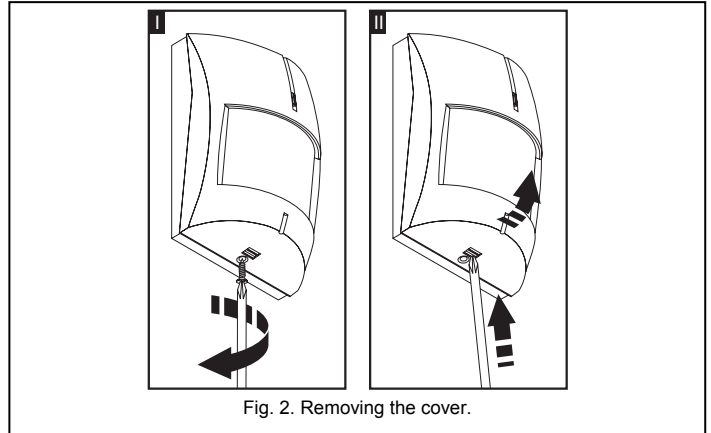

Fig. 2. Removing the cover.
1. Open the housing as shown in Figure 2.